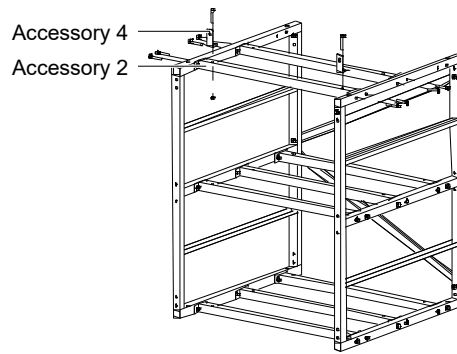

Figure 3 Installation procedure of accessory 2 and accessory 4
3) Install accessory 2 and accessory 4 according to Figure 3.